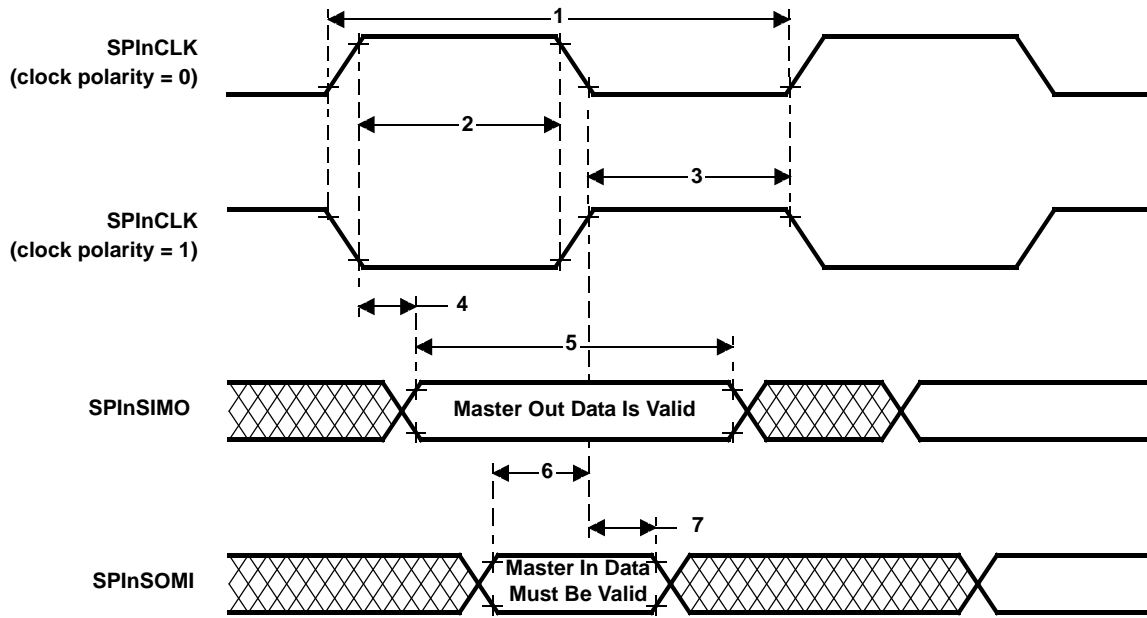

Figure 11. SPIn Master Mode External Timing (CLOCK PHASE = 0)
**SPIn master mode external timing parameters (CLOCK PHASE = 0, SPInCLK = output, SPInSIMO = output, and SPInSOMI = input)†‡§ (see Figure 11)**